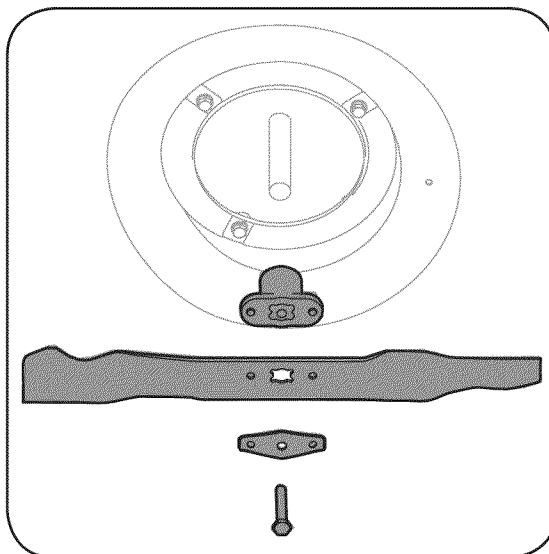

Figure 5-2: Remove the bolt, support, and adapter to access the blade.
2. Remove the bolt and the blade bell support which hold the blade and the blade adapter to the engine crankshaft. See Figure 5-2.
3. Remove blade and adapter from the crankshaft. See Figure 5-2.